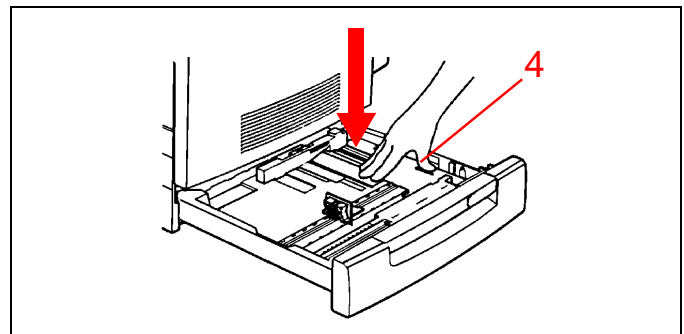

Figure 18
4. See Figure 18. Press down on the metal plate until it latches.